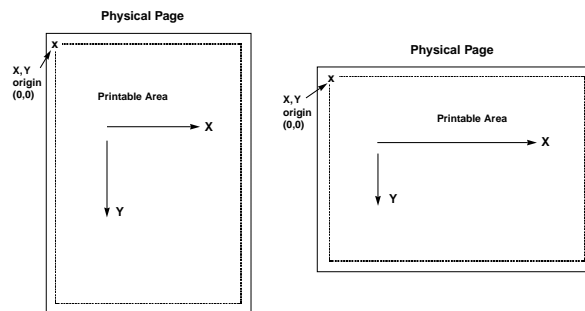

Figure 1
1. All xy values (start, end, center, increment) are measured in n/300 of an inch. The origin of the xy coordinate system is the top left hand corner of the printable area of the page (see Figure 1).
2. To determine the printable area of the paper, we printed a box using 0;0 as the x;y -start coordinates. This was done by typing `-GB1;0;0;300;300;50` on the screen and sending it to the printer. The top left corner of the printed box marks the top left corner of the printable area of the page. For reference, we drew the printable area on the blank sheet of paper. All references to distances are made in respect to the printable page, not the actual physical page. Refer to Figure 1 on page 5-21.